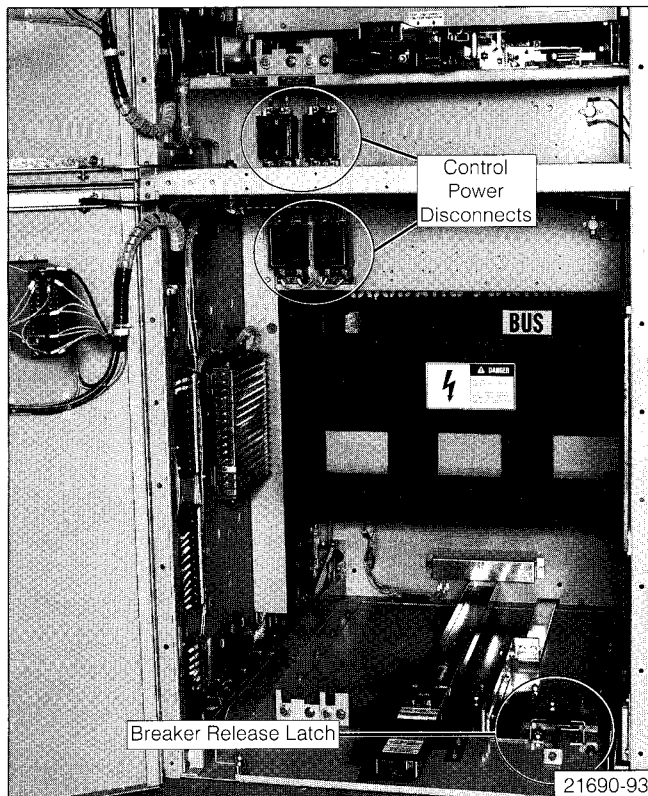

Figure 1: Control Power Disconnects in Switchgear.
De-Energizing Control Power in Switchgear - When the circuit breaker is mounted in switchgear, open the control power disconnect device in the metal-clad switchgear cubicle. **Figure 1** shows the location of this disconnect in a standard GM switchgear assembly.
The control power disconnect device is located on the device panel above the lower circuit breaker and below the upper circuit breaker. **Figure 1** shows a pullout type fuse holder. Removal of the fuse holder de-energizes control power to the circuit breaker in the respective switchgear cell. In some switchgear assemblies, a molded case circuit breaker is used in lieu of the pull out type fuse holder. Opening this circuit breaker accomplishes the same result: control power is disconnected.
1. Open control power circuit by removing pullout fuse holder shown in **Figure 1**.